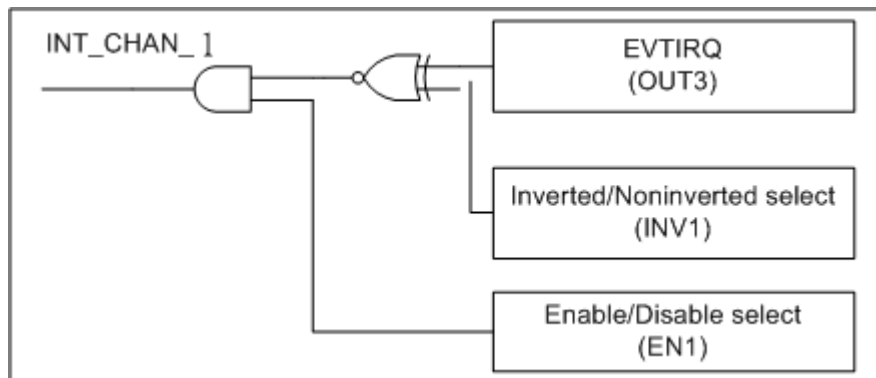

Figure 2.8
Figure 2.8 illustrates the control method of event interrupt. Note that the signal source comes from OUT3. The INV1 is used to invert/non-invert the trigger signal source and EN1 is used to disable/enable the timer interrupt (Refer to Sec. 2.5 for the source of interrupt signal). User can use Counter3 as event counter to count the event signal that comes from Pin7 of CN5. When the amount of event is the same as counter3 setting, the interrupt of INT_CHAN_1 will be trigger. **The INT_CHAN_1 must be fixed in low level state normally and generated a high_pulse to interrupt the PC.**
1. The EN1 can be used to enable/disable the INT_CHAN_1 as follows: (refer to Figure 2.8 and Sec. 3.1.4)
2. The INV1 can be used to invert/non-invert the EVTIRQ as follows: (Refer to Figure 2.8 and Sec. 3.1.6)